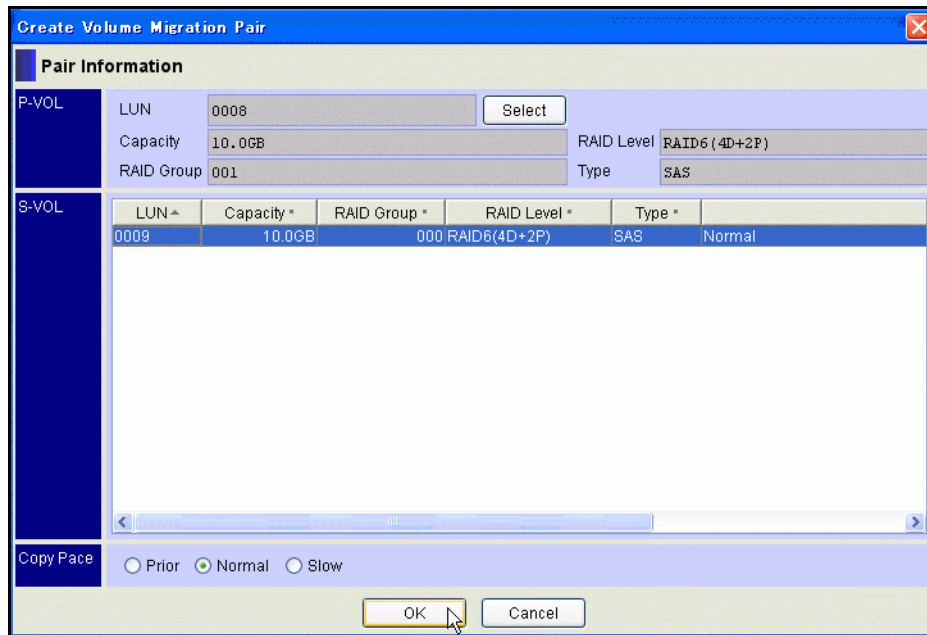

Figure 11-17: Create Volume Migration Pair Dialog
- Select the LUN for the S-VOL and Copy Pace, click **OK** as shown in Figure 11-17.